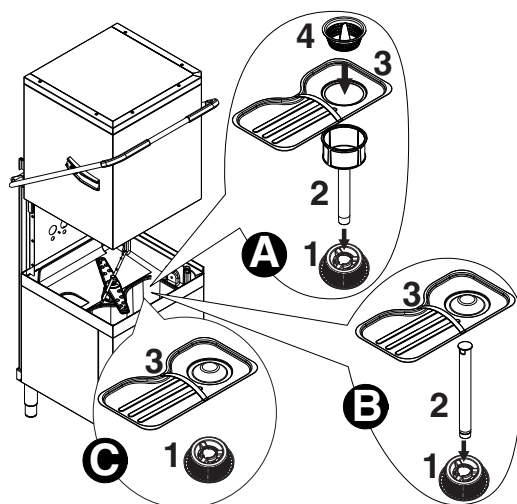

Figure 17 Filters and overflow
In versions with supplementary filtering system (FS), make sure the pump suction filter "1", the tank filter "2", the flat filter "3" and the basket filter "4" are correctly fitted ("A" - Figure 17).
In versions without supplementary filtering system (FS) and without drain pump, make sure the filter "1", the overflow "2" and the flat filter "3" are correctly fitted ("B" - Figure 17).
In versions without supplementary filtering system (FS) and with drain pump, make sure the pump suction filter "1" and the flat filter "3" are correctly fitted ("C" - Figure 17).